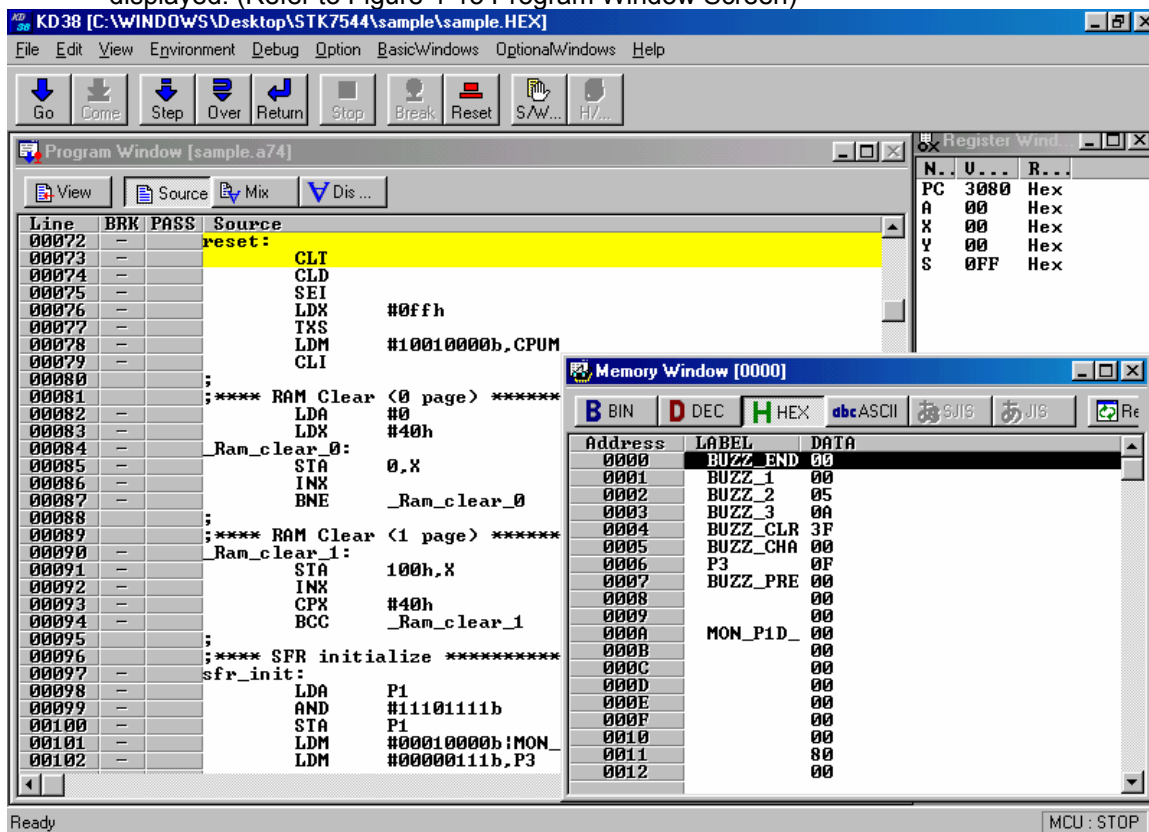

Figure 4-15 Program Window Screen
- 2)When the download completes, the program downloaded to "Program window" will be displayed. (Refer to Figure 4-15 Program Window Screen)